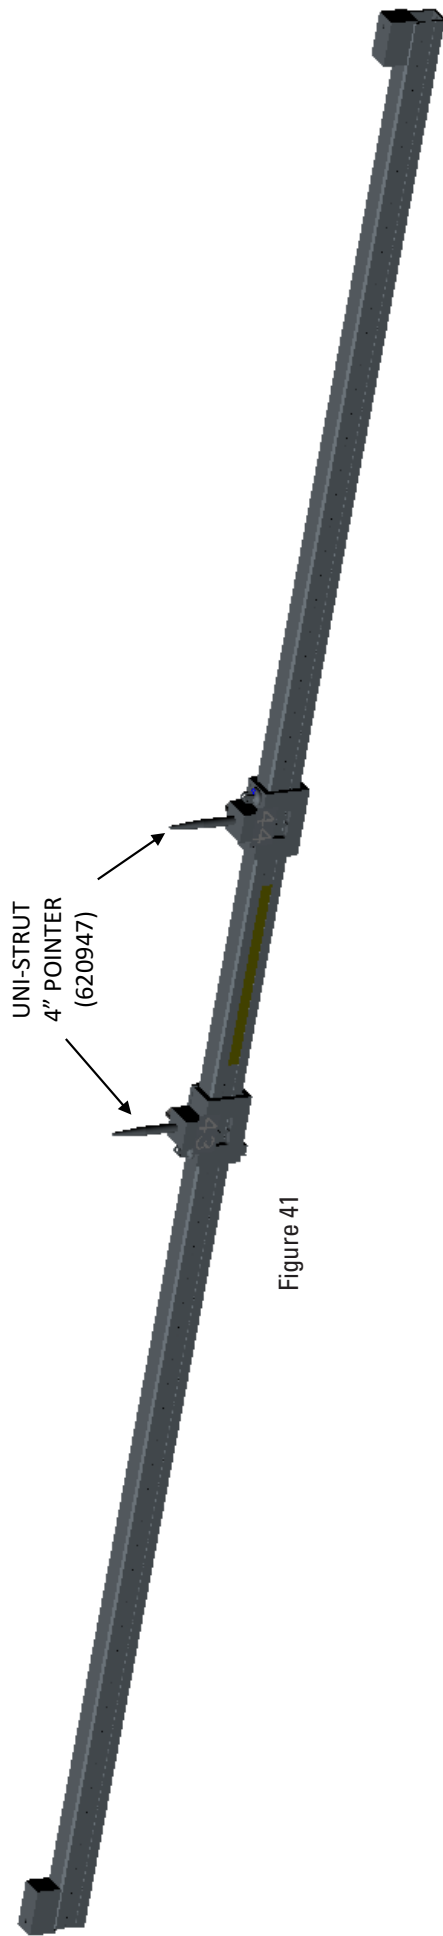

Figure 41
3. Remove both Uni-Strut 4" Pointers (620947) or whatever items are attached to the Upper Bar Assembly Upper Body Bar (799014) as shown in figure below, see figure 41.